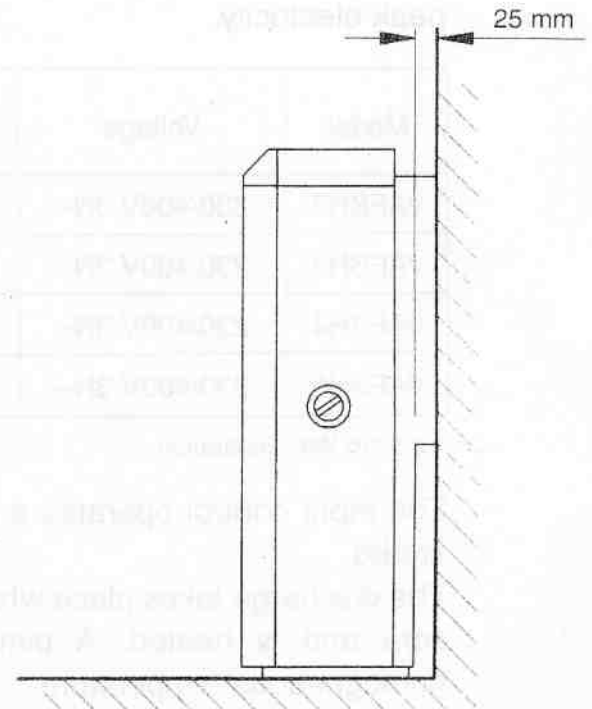

Fig. 2
5. Attach the LH & RH spacers to the storage heater using the screws supplied, in the same way as the screws are fixed in the upper rear section of the heater side. Check the heater is separated 25 mm from the wall at the top and bottom of the heater (Figure 2). Fit and screw the appliance to the anti-tilt device.